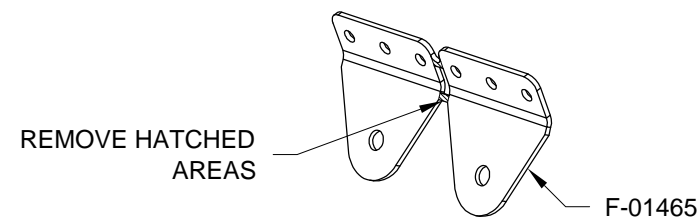

FIGURE 2: MUFFLER HANGER ANGLES
Step 2: Separate the F-01465 Muffler Hanger Angles as shown in Figure 2.